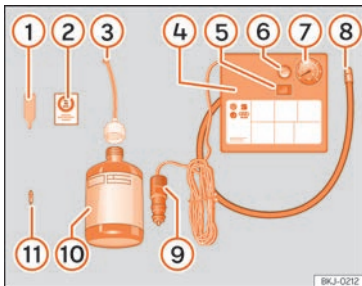

Fig. 70 Standard display: contents of the anti-puncture kit.
- Unscrew the tyre valve cap and insert. Use the »» Fig. 70 ① tool to remove the insert. Place it on a clean surface.
- Shake the tyre sealant bottle vigorously »» Fig. 70 ⑩.
- Screw the inflator tube »» Fig. 70 ③ into the sealant bottle. The bottle's seal will break automatically.
- Remove the lid from the filling tube »» Fig. 70 ③ and screw the open end of the tube into the tyre valve.
- Place the insert back into the tyre valve using the tool »» Fig. 70 ①.
- Screw the compressor tyre inflator tube »» Fig. 70 ⑧ into the tyre valve.
- Check that the air bleed screw is closed »» Fig. 70 ⑥.
- Insert the connector »» Fig. 70 ⑨ into the vehicle's 12-volt socket »» page 177.
- Turn the air compressor on with the ON/OFF switch »» Fig. 70 ⑤.